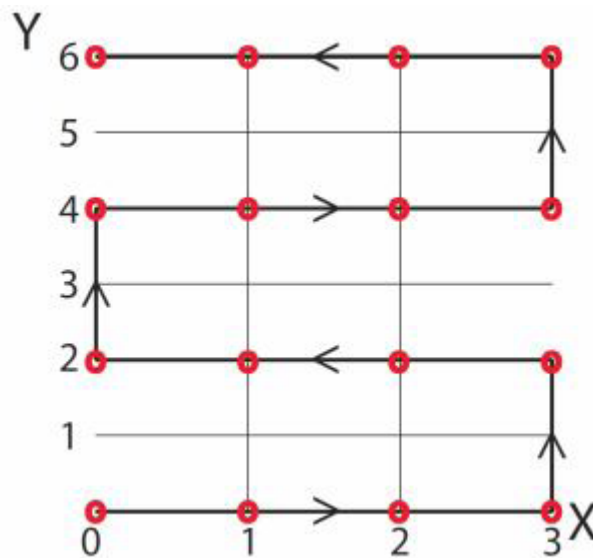

Figure 18: Automatic position increment
- **Position increment in metres:** Value automatically added to the current X/Y values to calculate the next measurement position on the grid. For example the first measurement has the position equal to the values in **Start position on the grid**; the second measurement's position is deduced by incrementing the X value of the current position on the grid by the X value defined in **Position increment in metres** (Figure 18).